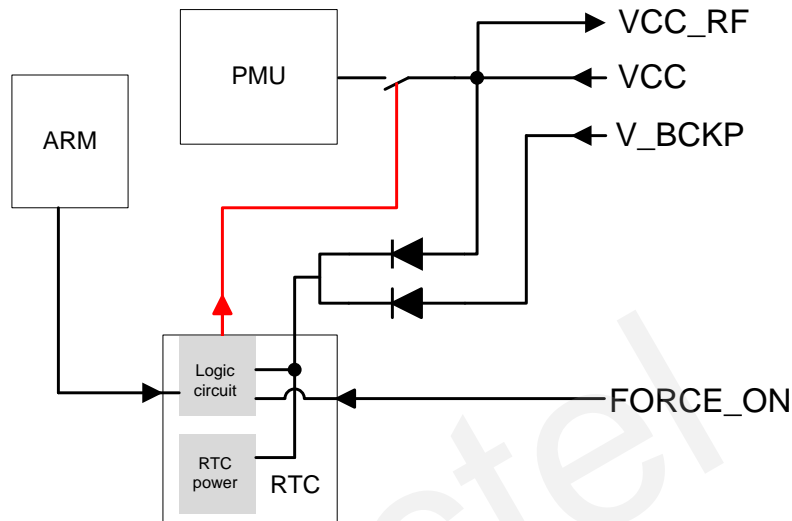

Figure 3: Internal Power Construction
- Send command “\$PMTK225,4*2F” (the red line opens the switch in Figure 3) to enter into backup mode forever. The only way to wake up the module is pulling the FORCE_ON high (the red line closes the switch in Figure 3).